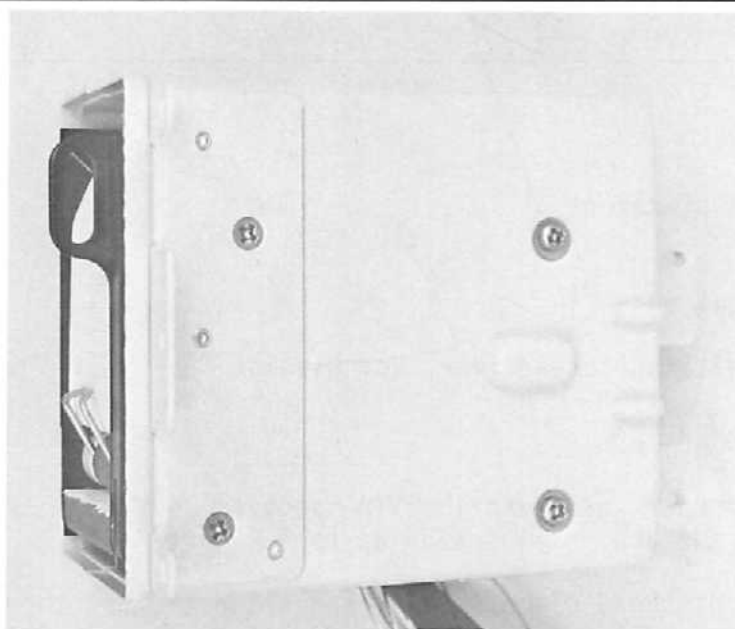

Figure 4-20.
11. The recorder is secured to the housing by four screws (see Figure 4-20). Lay the recorder housing on a flat surface with the screws up. Be careful not to damage the QRS Beeper speaker which is on the opposite side of the housing.